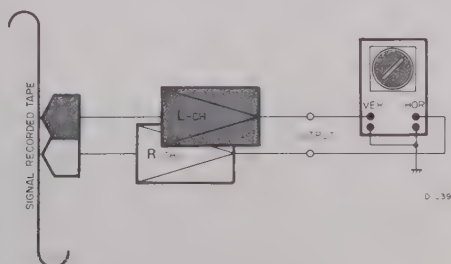

Fig. 7-11 Fine Adjustment Set-Up -Head Azimuth-
7. Connect the test equipment as shown in Fig. 7-11.